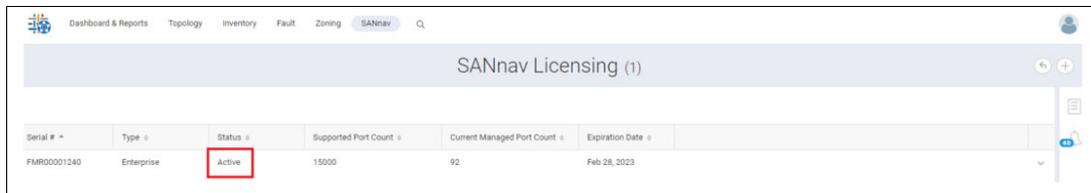

Figure 4-34 Active license
6. Your current session will be logged out. Log in to SANnav and return to the SANnav Licensing window. Check the license status, as shown in Figure 4-34.